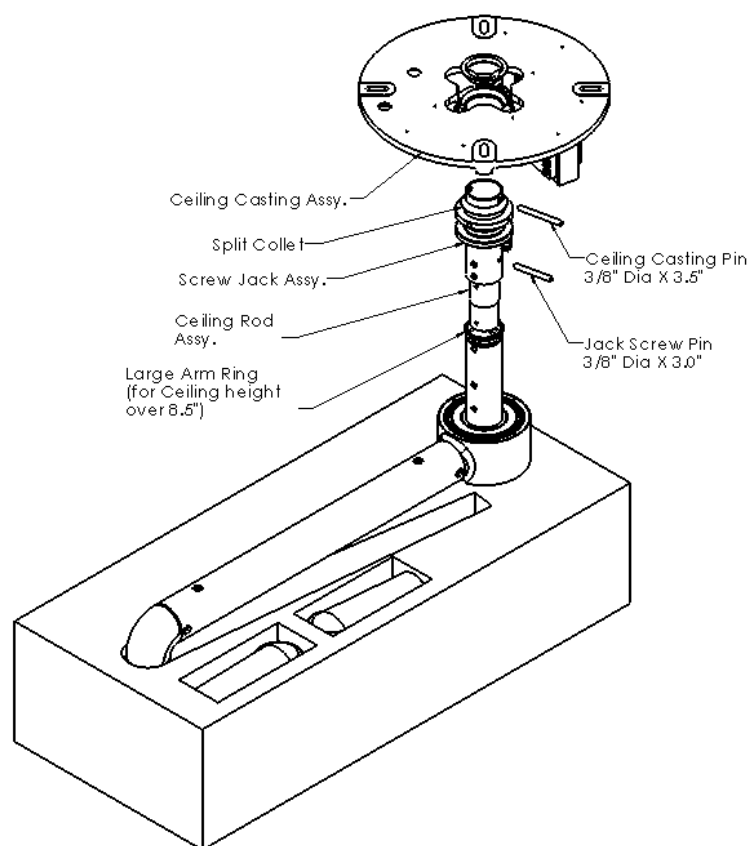

Figure 8. Installation setup
- Locate the cartons containing the arm assembly and the ceiling casting and unpack following the instructions on the outside of the container. Remove the contents such that the arm assembly is sitting by its self on top of the lower packing foam component. Assemble together the ceiling mounting components shown in figure 8.
- Slide the jack screw assembly over the shaft, so that the 3" long dowel pin is fully seated into the notch on the jack screw. See figure 8.